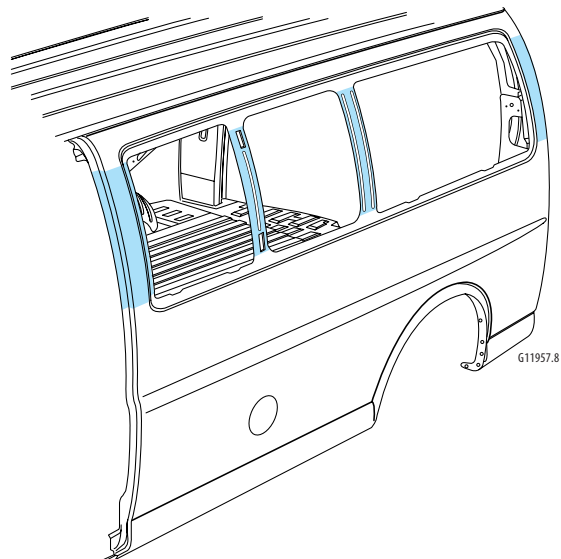

Figure 7-8:
4. Measure within the shaded areas on the pillars and mark the location to cut the original panel. Cut the pillars and window dividers, taking care not to damage the inner reinforcement panels (figure 7-8).